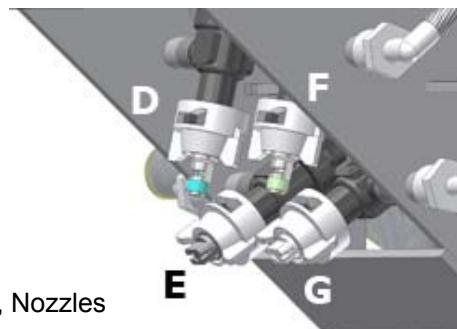

FIGURE 15, Nozzles
The spray pattern and spray rate are controlled by the engine speed, pump pressure, and the nozzle orifice. Referring to **FIGURE 14**: A Pressure Unloader Valve (A) at the lower right rear of the front frame controls pump pressure. There is a Suction Shutoff Valve (B) located at the lower left rear of the front frame. The Drain Valve (C) can be used to flush the spray system, drain the tanks or fill the Spot Sprayer bottle (included). A Strainer (not shown) is located inside each Tank. The Tanks are connected together by common Suction and Return flow plumbing to provide a total capacity of **12 U.S. GALLONS** (45.4 liters). **NOTE:** The Triumph is not capable of selectively drawing from only one Tank. Referring to **FIGURE 15**: There is a pair of low drift nozzles (broadcast (D) & trim (E)) for use while in **LOW GEAR**, and a second pair of low drift nozzles (broadcast (F) and trim (G)) for use in **HIGH GEAR**. [If the Half Gallon Nozzle Kit is installed, the **LOW GEAR** Broadcast Nozzle is replaced by a second **HIGH GEAR**
- Referring to **FIGURE 15**, select the **HIGH GEAR** Broadcast Nozzle (TF-VS 7.5 color coded with a green band) by turning the front Spray Control Valve (I) handle to the left. The rear Spray Selector Valve handle (J) must be pointed forward turning off the **LOW GEAR** nozzles. [If the Half Gallon Nozzle Kit is installed, both Broadcast Nozzles will be used simultaneously.]
- Referring to **FIGURE 15**, select the **HIGH GEAR** Trim Nozzle (**ULD120-08** color coded white) by turning the front Spray Selector Valve handle (**I**) to the right. The rear Spray Selector Valve handle (**J**) must be pointed forward turning off the **LOW GEAR** nozzles.